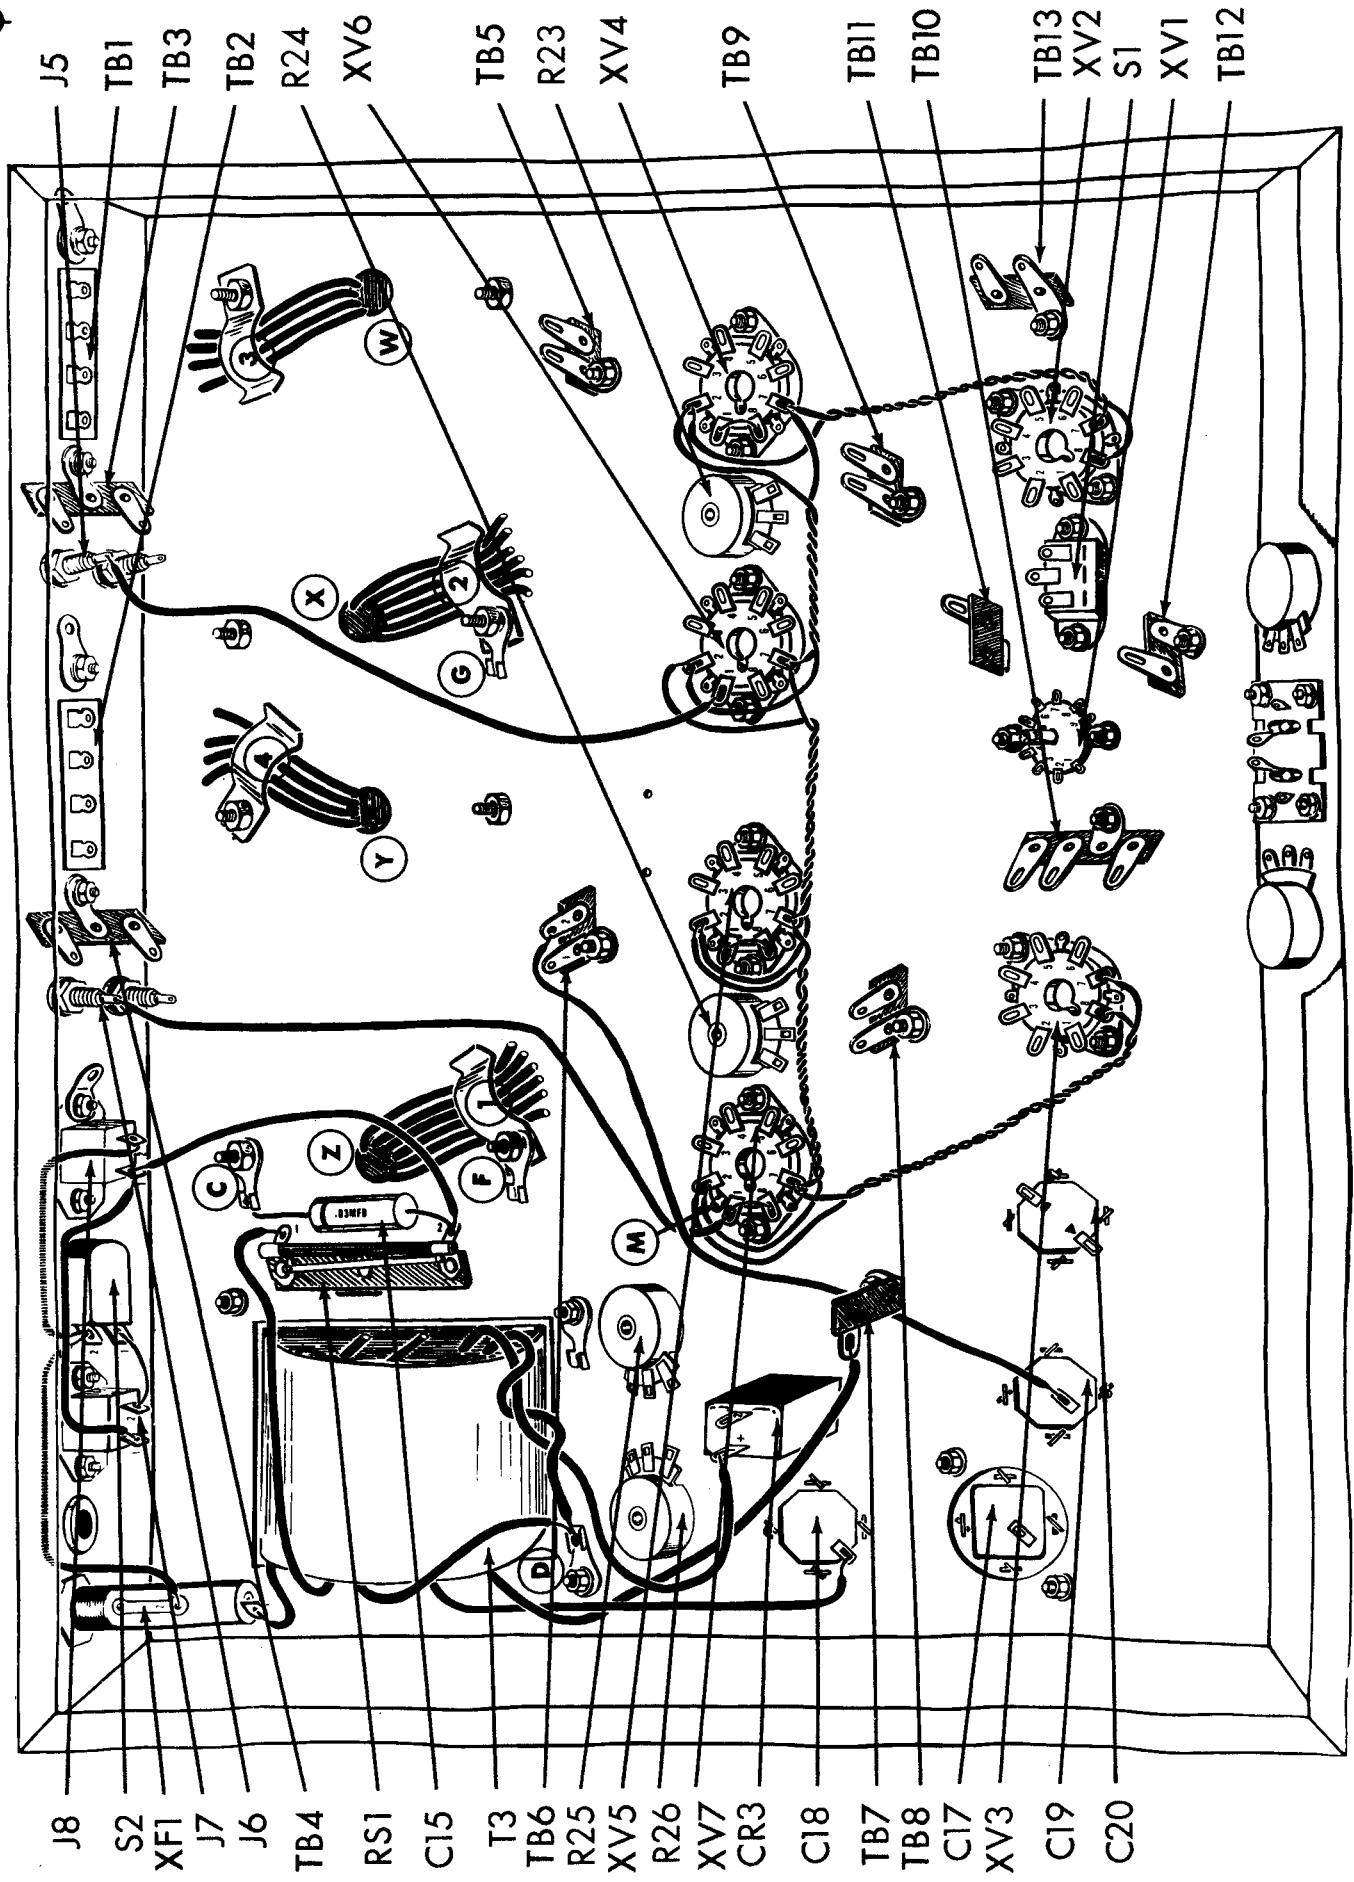

Fig. 3
- ( ) 1. Fig. 1. On power transformer T3, cut both green leads to 6", one red lead to 6", the other red lead to 7", the white lead to 3", one black lead to 2", the other black lead to 4", one blue lead to 4" and the second blue lead to 6 1/2". On each of these leads strip the insulation back 1/4". Mount the transformer as shown with the green leads toward the center of the chassis and the black leads close to the side of the chassis. Use four #8 lockwashers and four #8-32 hex nuts to secure the transformer to the chassis. Under each of two of the lockwashers, mount a #8 ground lug, as shown in Figure 3.
- ( ) 2. Fig. 1. On both output transformers T1 and T2, cut the black lead to 4", the white lead to 4 1/2", the green lead to 5" and the yellow lead to 5 1/2". Cut the blue and blue-yel. leads to 4 1/2" and the brown and brown-yel. to 5 1/2" and the red and red-yellow leads to 6". Strip the insulation back 1/4" from the ends of each of the leads. Mount transformer T2 with black, brown, green, and yellow leads going through hole "Y" and all the remaining leads going through hole "Z". Secure the transformer to the chassis using four #10-32 screws and four #10 flat washers from above the chassis and four #10 lockwashers and four #10-32 hex nuts from below the chassis. Noting the orientation in figure 3, under one of the lockwashers used in the mounting of T2, place cable clamp #1 and the #10 ground lug "F". Run the leads from hole "Z" under this cable clamp #1. Under a second lockwasher used in the mounting of T2, place cable clamp #4. Run the leads from hole "Y" under this cable clamp #4. Mount ground lug "C" under one of the remaining lockwashers used for the mounting of T2 as indicated in the figure. Mount transformer T1 with the black, white, green and yellow leads going through hole "W" and the remaining leads going through hole "X". Secure the transformer to the chassis using four #10-32 screws and four #10 flat washers from above the chassis and four #10 lockwashers and four #10-32 hex nuts from below the chassis. Noting the orientation in figure 3, under one of the lockwashers used in the mounting of T1, place cable clamp #2 and the #10 ground lug "G". Run the leads from hole "X" under this cable clamp #2. Under a second lockwasher used in the mounting of T3, place cable clamp #3. Run the leads from hole "W" under this cable clamp #3.
- ( ) 1. Fig. 3. Connect an 8 1/2" piece of red wire from C19 (C) to TB6-2 (C). Run this lead along the chassis as shown.
- ( ) 2. Fig. 3. From power transformer, T3, connect the white lead to ground lug "D" (C), the short black lead to XF1-1 (C) and the longer black lead to RS1-1 (C). Twist the two red leads together as shown. Connect one red lead to C18 (C) and the second red lead to TB7 (C). Twist the two blue leads together. Connect one blue lead to ground lug "D" (S2) and the second blue lead to CR3-1 (S1). Do not use excessive heat when soldering to CR3.
- ( ) 3. Fig. 3. Connect a 4 1/2" piece of grey wire from XF1-2 (S1) to S2-2 (C).
- ( ) 4. Fig. 3. Connect a 4" piece of gray wire from S2-2 (S2) to J8-2 (S1).
- ( ) 5. Fig. 3. Connect a 1 1/4" piece of bare wire from J7-2 (C) to S2-1 lug "M" (S1) at XV7.
- ( ) 6. Fig. 3. Connect a 5" piece of gray wire from J7-1 (C) to J8-1 (C).
- ( ) 7. Fig. 3. Connect a 4" piece of grey wire from J8-1 (S2) to RS1-2 (C).
- ( ) 8. Fig. 3. Cut both leads on a .03mfd (orange, black, orange, black, blue) molded capacitor C15 to 1". Connect one lead to RS1-2 (S2) and the second lead to ground lug "C" (S1).
- ( ) 9. Fig. 3. Connect one end of a six inch piece of yellow wire to XV4-2 (C) and one end of a 5" piece of brown wire to XV4-7 (C). Twist the two leads together and run them along the chassis as shown. Connect the other end of the yellow wire to XV2-7 (S1) and the other end of the brown wire to XV2-8 (S1).
- ( ) 10. Fig. 3. Connect one end of a 7" piece of yellow wire to XV4-2 (S2) and one end of a 4" piece of brown wire to XV4-7 (S2). Twist the two leads together and run them along the chassis as shown. Connect the remaining end of the yellow wire to XV6-2 (C) and the other end of the brown wire to XV6-7 (C).
- ( ) 11. Fig. 3. Connect one side of a 7" piece of yellow wire to XV6-2 (S2) and one side of a 4" piece of brown wire to XV6-7 (S2). Twist the leads together and run them along the chassis as shown. Connect the other end of the yellow wire to XV5-2 (C) and the other end of the brown wire to XV5-7 (C).
- ( ) 12. Fig. 3. Connect one end of a 7" piece of yellow wire to XV5-2 (S2) and one end of a 4" piece of brown wire to XV5-7 (S2). Twist the two leads together and run them along the chassis as shown. Connect the other end of the yellow wire to XV7-2 (C) and the other end of the brown wire to XV7-7 (C).
- ( ) 13. Fig. 3. Connect one end of an 8" piece of yellow wire to XV7-2 (C) and one end of a 7" piece of brown wire to XV7-7 (C). Twist the two leads together and run them along the chassis as shown. Connect the other end of the brown wire to XV3-8 (S1) and the other end of the yellow wire to XV3-7 (S1).
- ( ) 14. Fig. 3. Connect a 3/4" piece of bare wire from XV7-2 (C) to ground lug "M" (S1) at XV7.
- ( ) 15. Fig. 3. Connect a 3/4" piece of bare wire from XV7-1 (C) to XV7-8 (S1).
- ( ) 16. Fig. 3. Connect a 3/4" piece of bare wire from XV5-1 (C) to XV5-8 (S1).
- ( ) 17. Fig. 3. Connect a 3/4" piece of bare wire from XV6-1 (C) to XV6-8 (S1).
- ( ) 18. Fig. 3. Connect a 3/4" piece of bare wire from XV4-1 (C) to XV4-8 (S1).
- ( ) 19. Fig. 3. Connect an 8" piece of orange wire from XV7-1 (S2) to J6 (C).
- ( ) 20. Fig. 3. Connect an 7" piece of orange wire from XV6-1 (C) to J5 (S1).